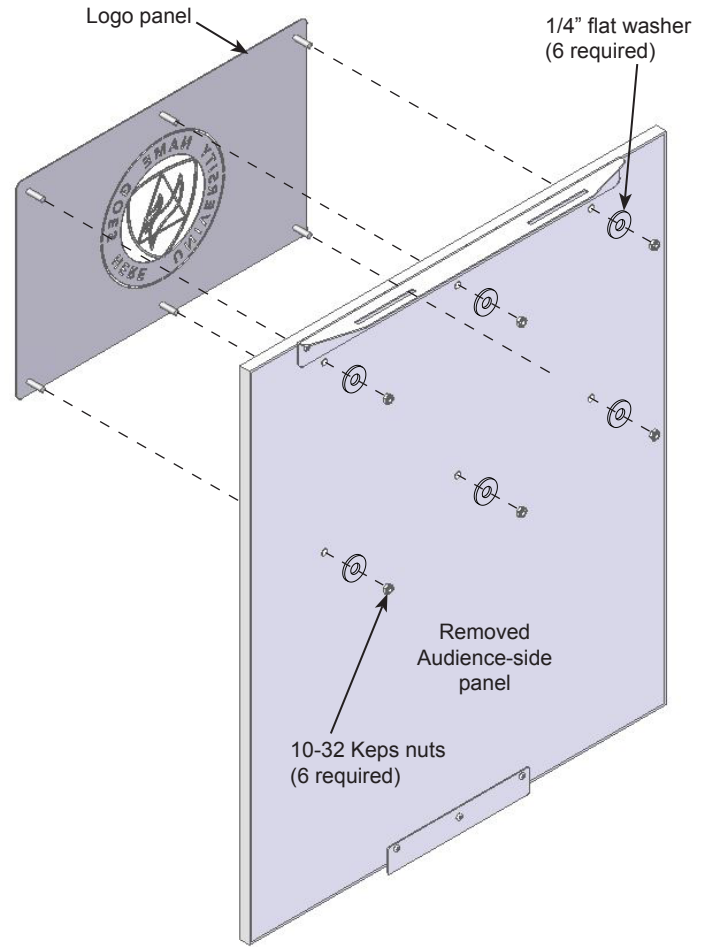

Figure 1D
6. Align the logo panel studs with the drilled holes and secure with (6) 1/4" flat washers and (6) 10-32 Keps nuts. **Figure 1D.**